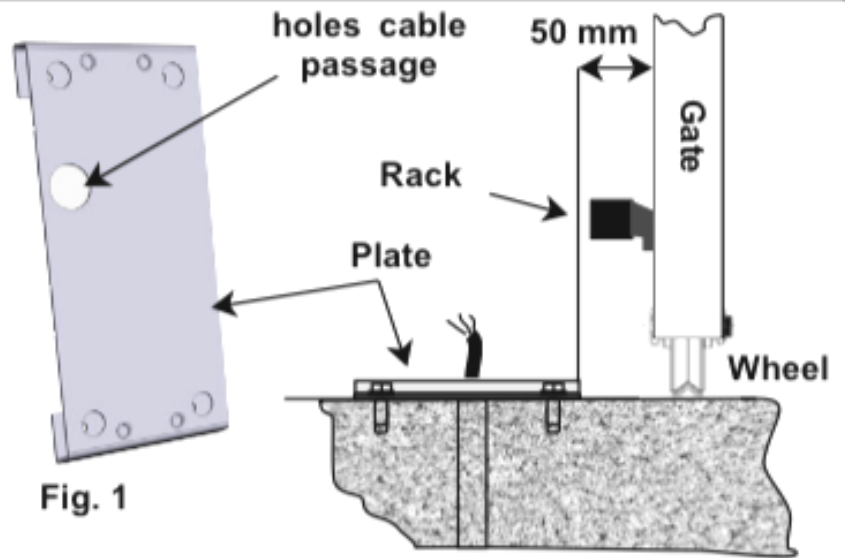
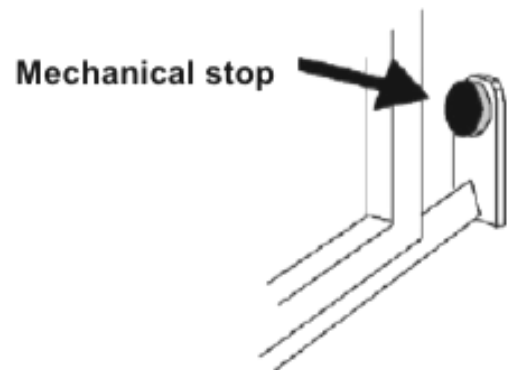

Fig. 1
Fig. 2
Position the plate provided **(Fig. 1)** 50 mm from the edge of the gate and perfectly square at an angle of 90°.
- Also check that the runner on the ground ( **Fig. 1** ) is not deformed, is perfectly level and that the mechanical stop is present on opening ( **Fig. 2** ) in order to **prevent** the gate from going beyond the upper runners ( **Fig. 3** )